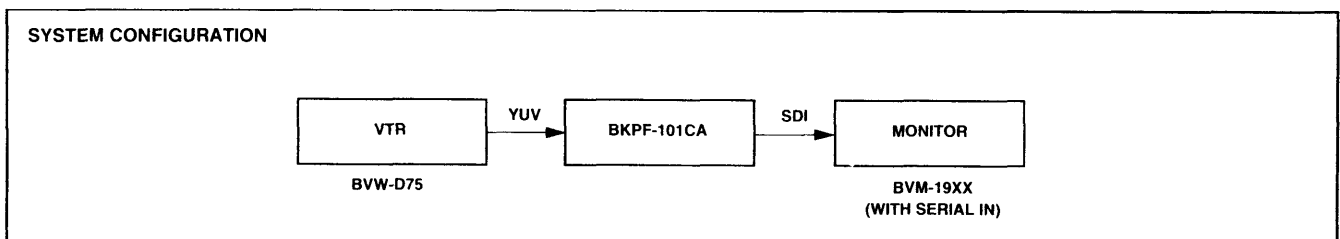

Figure 4
11. Verify that a picture is normal on a monitor in the configuration shown in Figure 4.